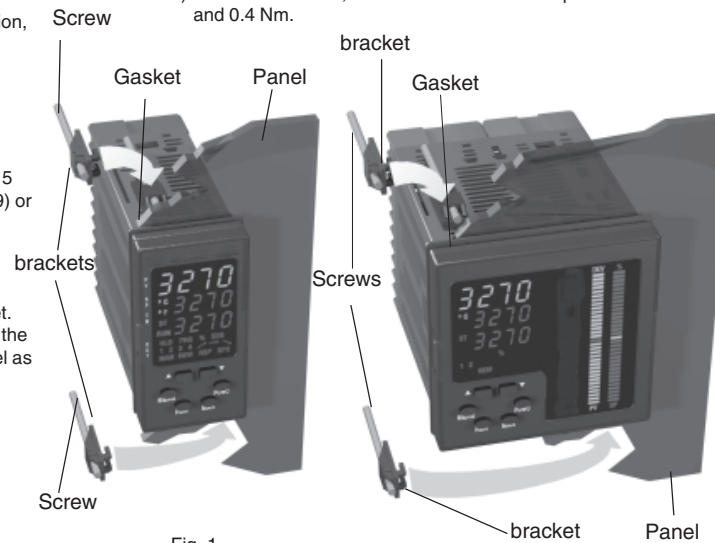

Fig. 1
The instrument is shipped with rubber panel gasket. To assure the IP65 and NEMA 4 protection, insert the panel gasket between the instrument and the panel as shown in fig. 1.
- 4) insert the mounting brackets as shown in fig.1;